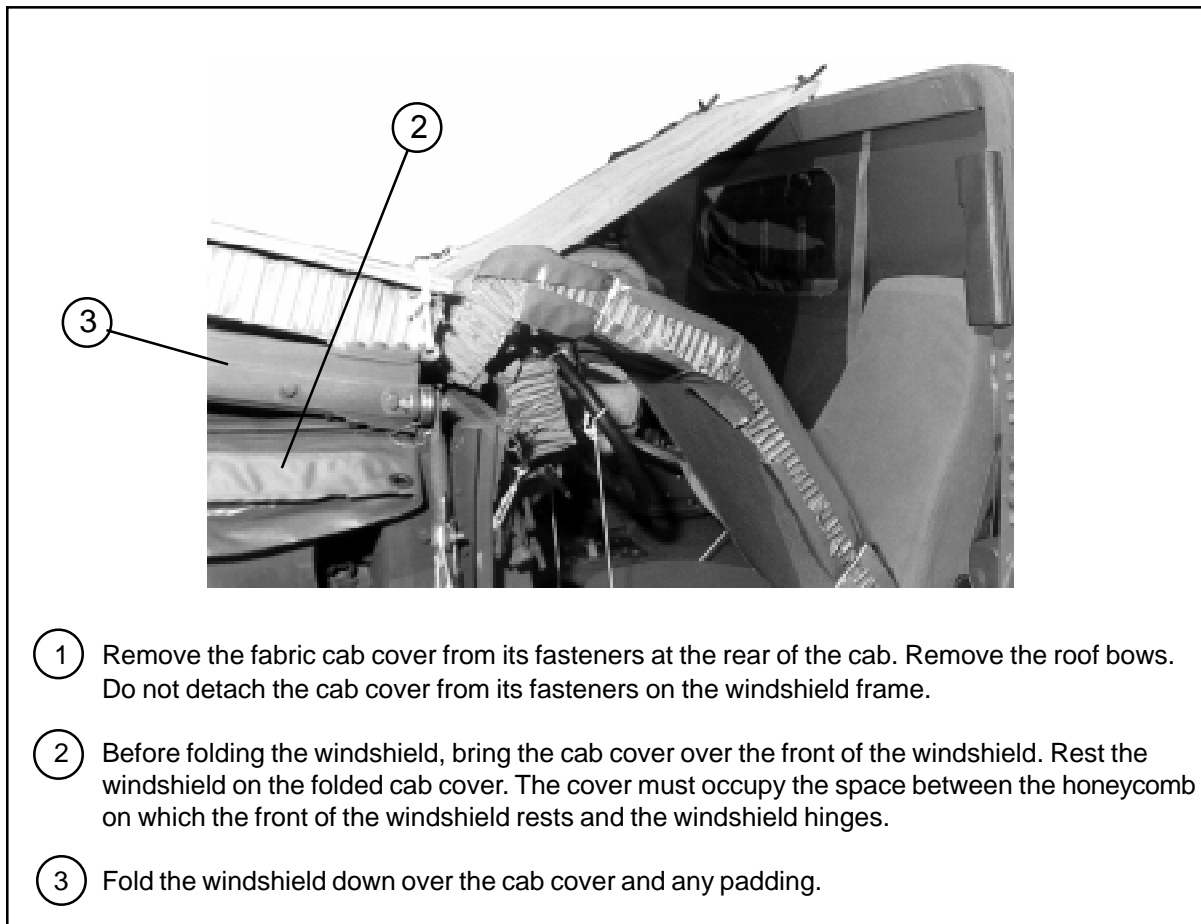

Figure 4-8. Windshield Folded Over the Cab Cover
f. Prepare the front of the truck as shown in Figure 2-10. Use the modification shown in Figure 4-8. Place a 4- by 78-inch piece of honeycomb along the front edge of the hood. Also, cover the hood with one piece of honeycomb cut as shown in Figure 2-10, step 6, instead of with two pieces.